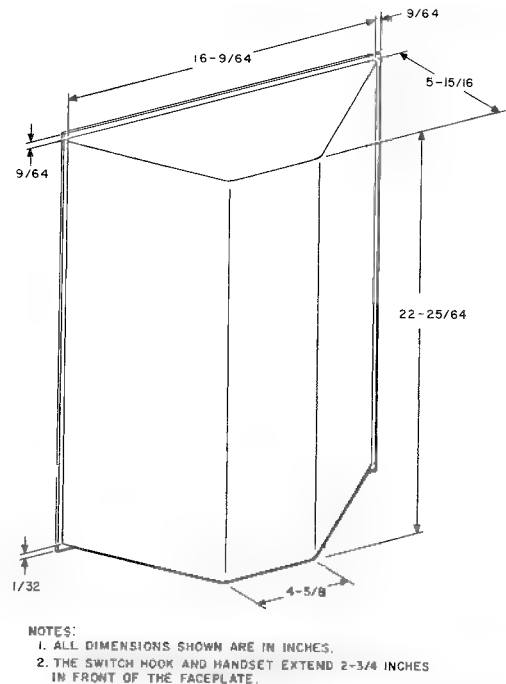

Fig. 5—Rear View of 2A-Type Showing Dimensions
- (1) Ensure that the wall will accept the set.
- (2) Refer to Fig. 5 for dimensions of the set.
- (3) Cut a hole in the wall